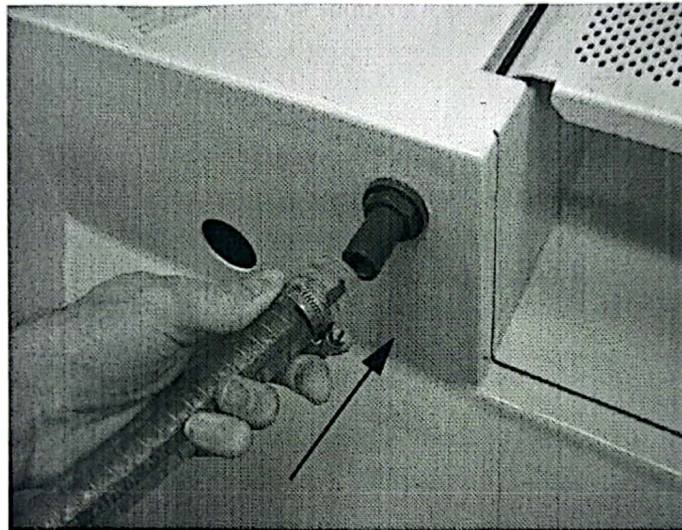

Figure 7 Connect Supply Pipe to Internal Pipe for Weir Experiments
4. Make sure the bench supply hose either points into the volumetric tank or connects to the short return pipe that directs water around to the open channel (see Figure 7).
3. If you are doing weir experiments in the open channel in the top of the bench; connect the supply pipe to the short internal return pipe that directs water back to the open channel (see Figure 7).